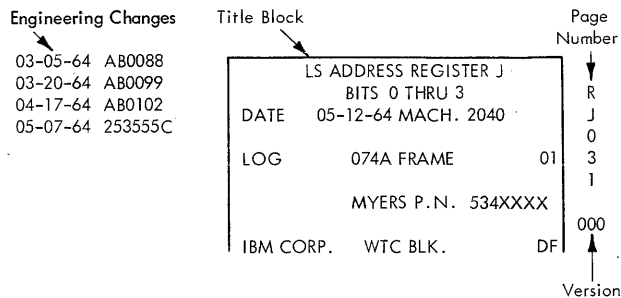

Figure 3-5. Example of Title Block Area
The title block is printed in the lower right corner of the page. As Figure 3-5 shows, information can be found at three places in the block:
- a. The page (sheet) title ("LS Address Register J Bits 0 thru 3" in Figure 3-5).